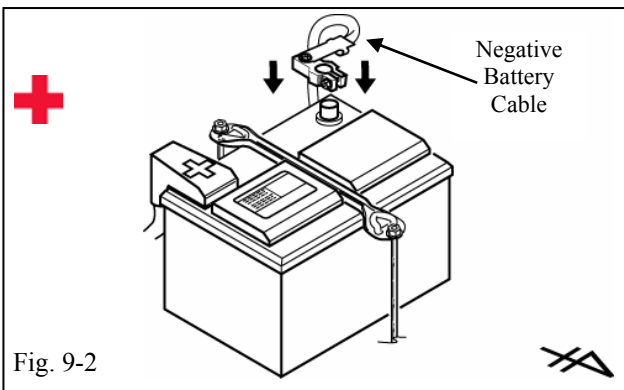

Fig. 9-2
- (b) Temporarily reconnect the Vehicle's Negative Battery Cable. (Fig. 9-2)